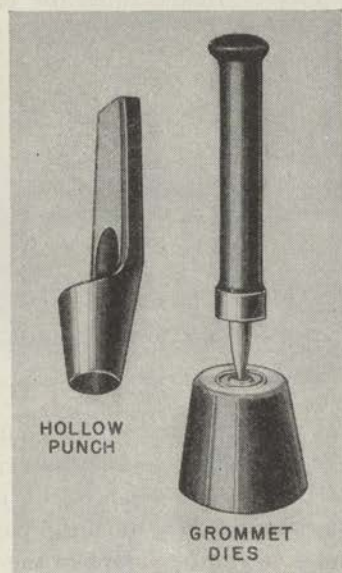

FIGURE 84.—Hollow punch and grommet dies.
m. Hollow punch and grommet dies.—Holes for grommets are made in duck and canvas by means of the hollow punch. The punch should be used on the end grain of a hardwood block and driven by a wooden or rawhide mallet. Grommets are fastened in position by placing them between the dies (fig. 84) and striking the handle with a mallet (in preference to a hammer).